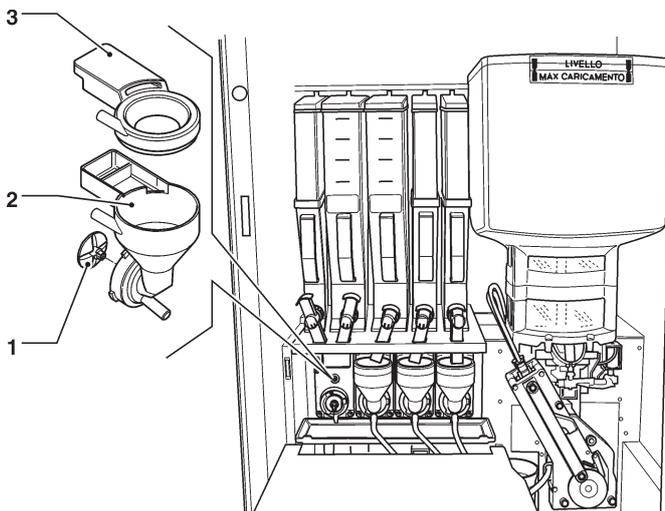

Fig. 10
- Remove the powder funnels, the water feeders, the powder deposit funnels and the impellers of whippers from the mixers (see fig. 10);